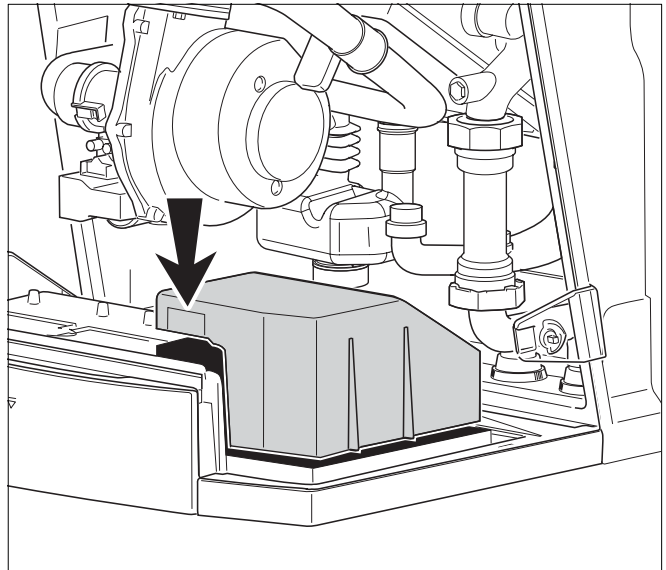

Fig. 93 Installing the cover of the connection box
- pos. 2: Outdoor-temperature sensor (connection color blue)
- pos. 3: Potential-free On/Off thermostat (connection color green)
- pos. 4: DHW temperature sensor (connection color grey)
- pos. 5: External switching contact, potential-free for floor heating safety etc. (connection color red)
- pos. 6: Connection for external 3-way valve (connection color green)
- pos. 7: Primary loop pump 120V 60Hz (connection color green)
- pos. 8: DHW tank pump 120V 60Hz (connection color grey)
- pos. 9: DHW recirculating pump 120V 60Hz (connection color lilac)
- pos. 10: main connection 120V 60Hz (connection color white)
- pos. 11: Fuse holder
- Fit the cover on the external connection box (see fig. 93).